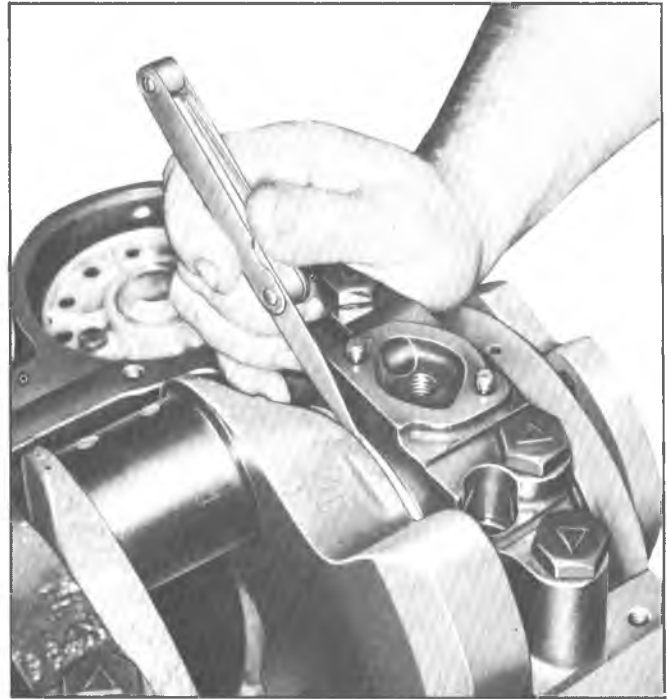

Fig. 41—Measuring Crankshaft End Play
9. Measure crankshaft end play (see specifications) by forcing the crankshaft to the extreme front position. Measure at the front end of the rear main bearing with a feeler gauge (fig. 41).